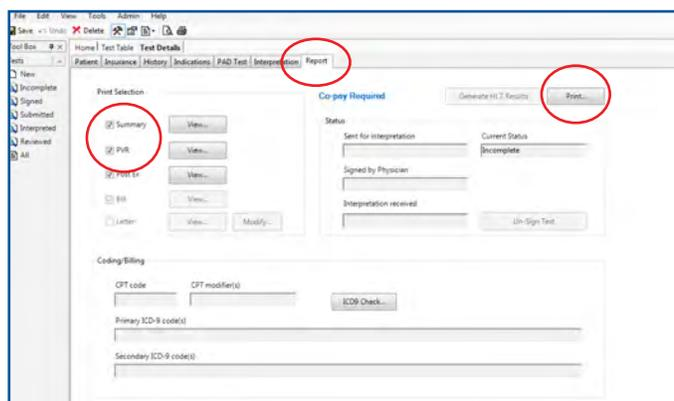

FIGURE 1.52 - Report Tab - Checkboxes and “Print...” Button
1. Click the Report tab. Be sure “Summary” and “PVR” boxes are checked, then click “Print...” (Figure 1.52).